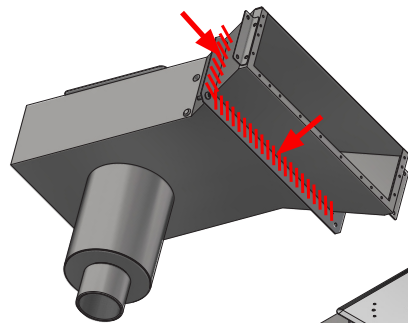

Figure 10.
2. Apply a suitable sealing compound in the joint between the embedding flange and the skimmer housing (see Fig. 10). When applying the sealant, it is important that the joint is sealed to prevent any water from penetrating the joint. Refer to the sealant's instructions for preparation, application and hardening.